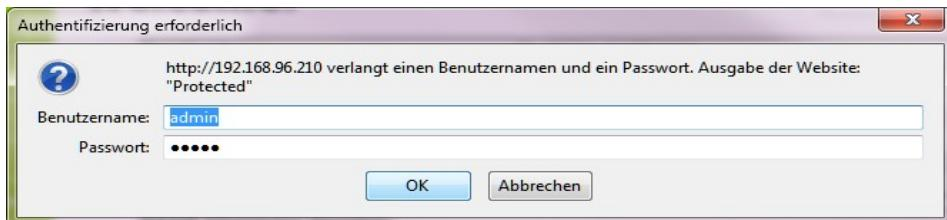

Figure 6: Login IP-EFOY-GATEWAY website
5. Choose menu item “**IP**” on the left of the website and enter the default login and password combination (see Figure 6 - Default user name: “**admin**” and default password: “**00000**”)